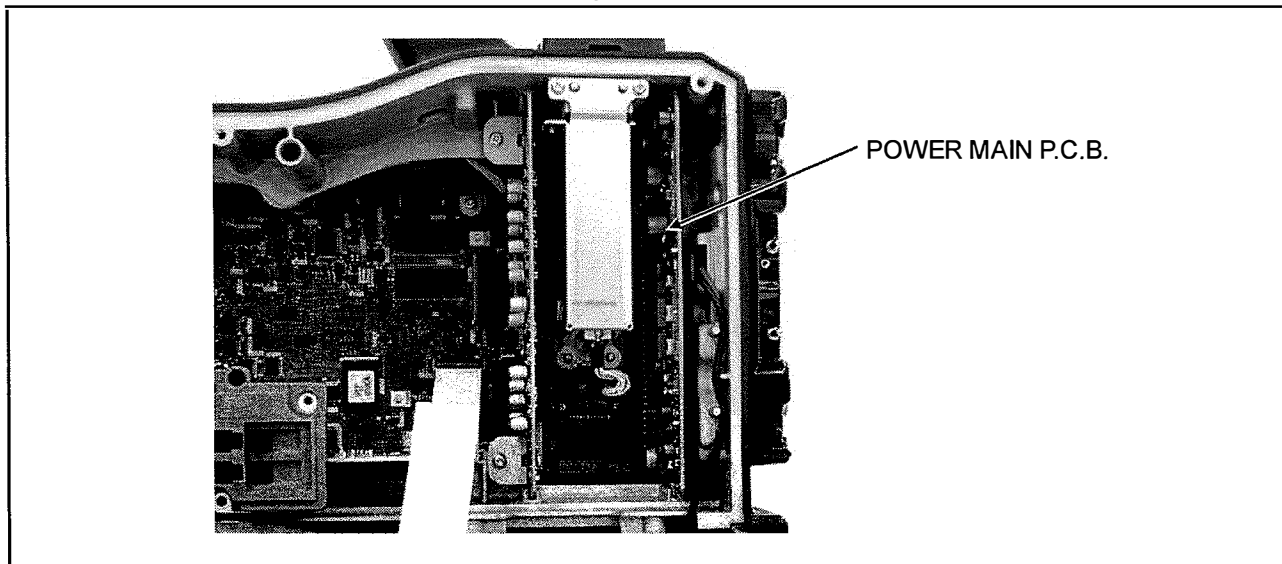

Figure 4-1
2. Remove the POWER MAIN P.C.B as shown in figure 4-1.